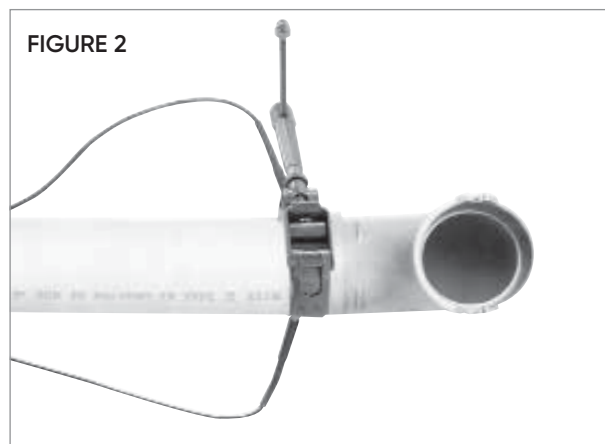

FIGURE 2
9. Following the "CONNECT LEADS AND FITTINGS" instruction on the display, connect the output leads (Figure 2). If required, connect link cable for multiple fusions.